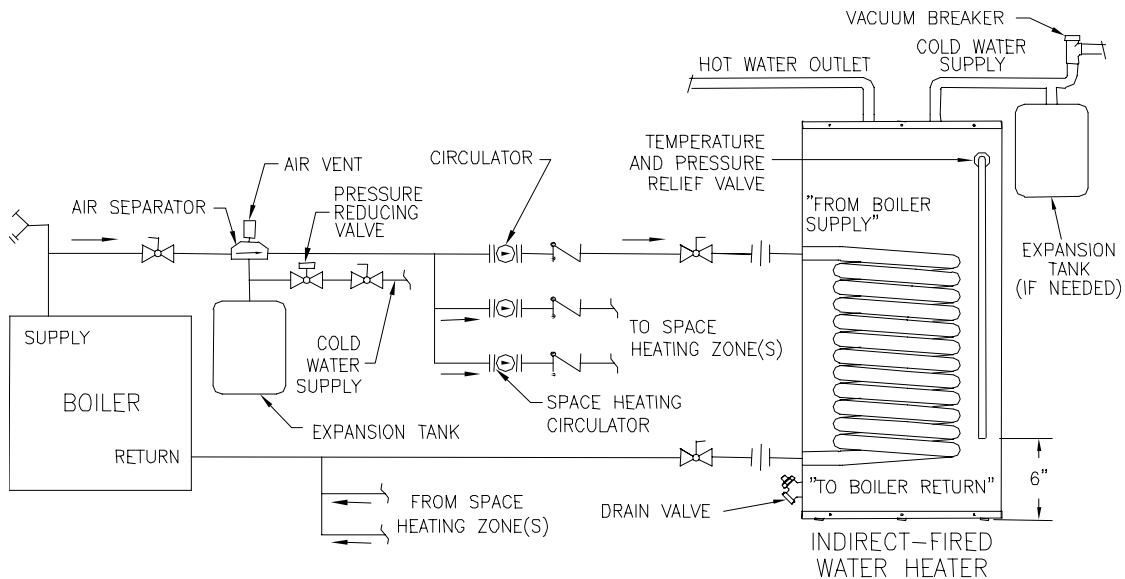

Figure 3 - Water Boiler Piping with Circulators
2. For a space heating system that utilizes CIRCULATORS, refer to Figure 3. The indirect-fired water heater connection labeled “FROM BOILER SUPPLY” should be piped to the boiler supply piping. Mount the circulator making sure the flow arrow points toward the water heater. The use of shut-off valves and unions are recommended for future service convenience. The use of an air separator and vent is recommended to eliminate air in the system. Pipe and fittings between the boiler and indirect-fired water heater must be 3/4” diameter or larger.